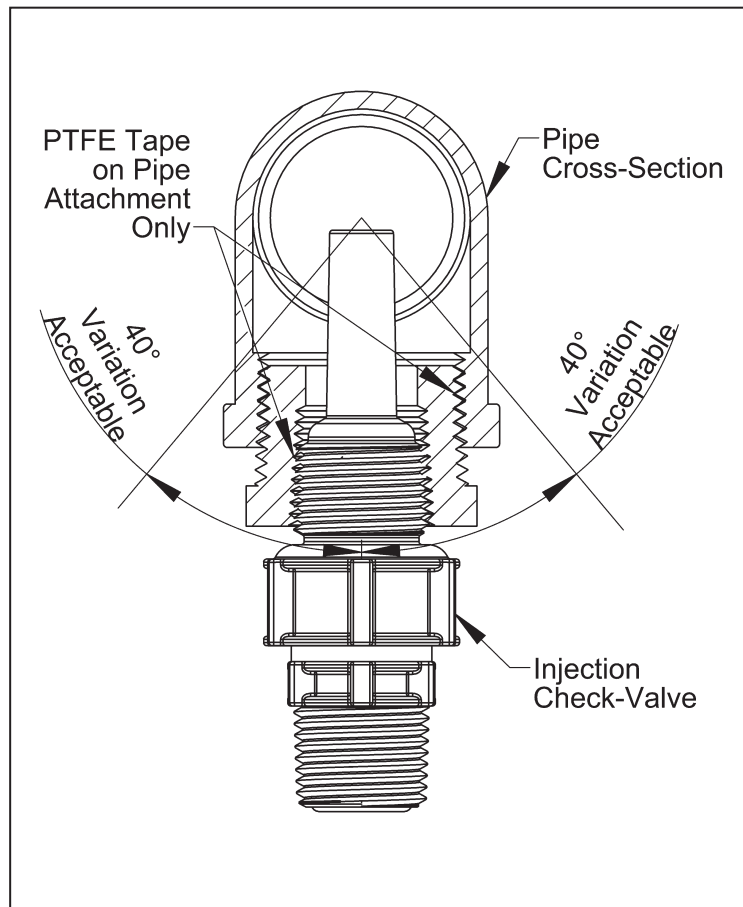

Figure 12. Injection Check Valve
A. Installing Injection Check Valve (Figure 12)